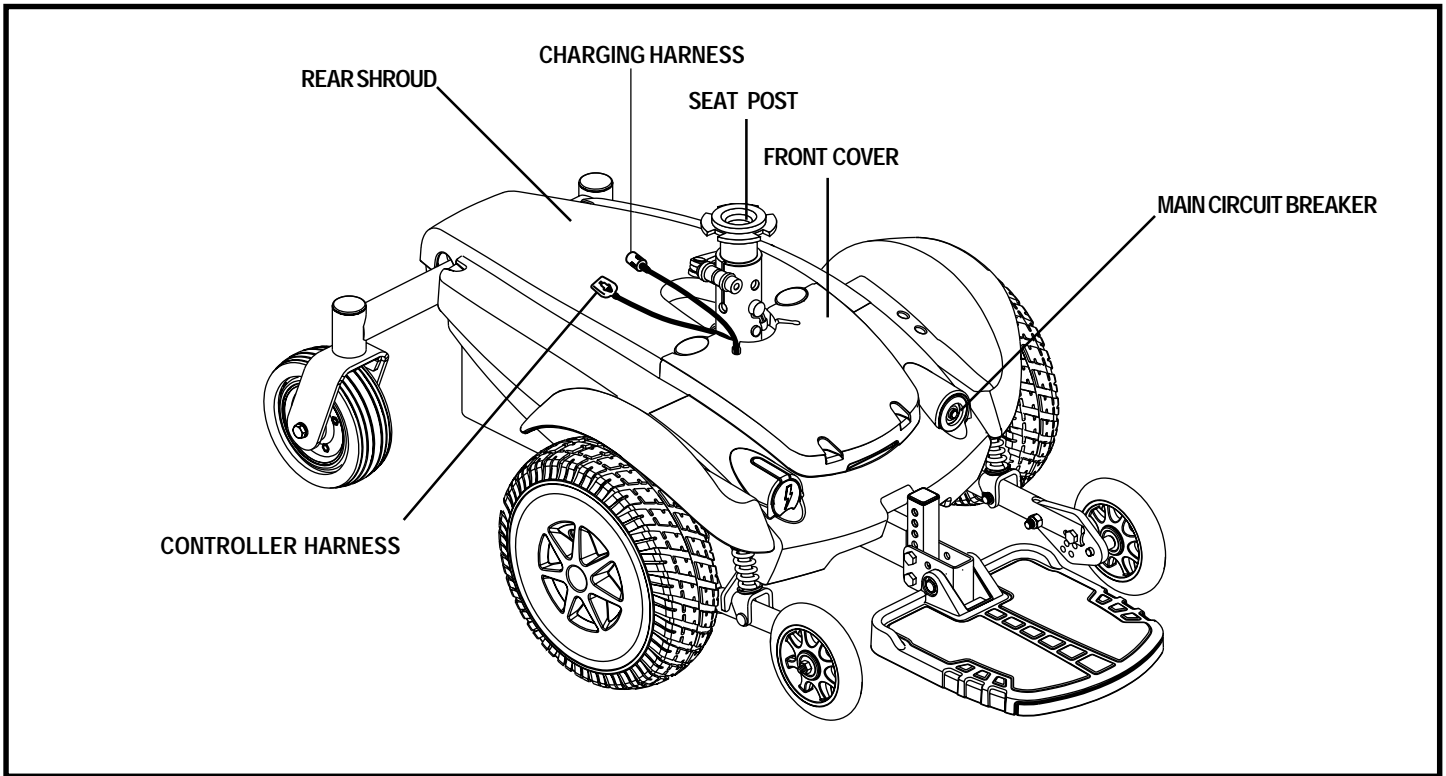

Figure 6. The Jazzy Select Power Base
The electrical components are located either on or inside the power base. The main circuit breaker is located on the front of the power base. The power module is located under the front cover. See figures 6 and 7.
5. Plug the joystick module cable into the connector on the power base. See figure 6 or 7.